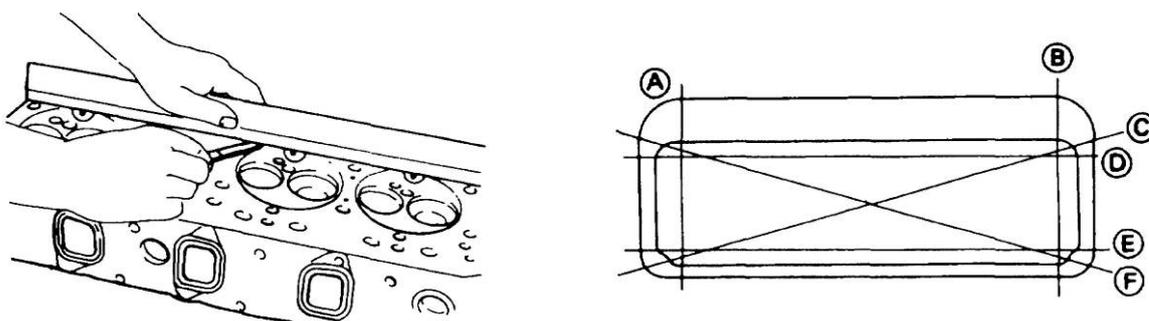

Figure 3 Checking the Cylinder Head Distortion
17. Check the cylinder head for distortion, using a straight edge and a feeler gauge (Figure 3). If the distortion exceeds 0.2 mm (0.008 in) the cylinder head will require machining. Before machining the cylinder head, measure the thickness with a micrometer. The standard thickness is 89.95 to 90.05 mm (3.541 to 3.545 in). The head may be machined to 0.3 mm (0.012 in) under the standard minimum thickness. If the head is still not true after machining to the limit of 89.65 mm (3.530 in), replace the head.